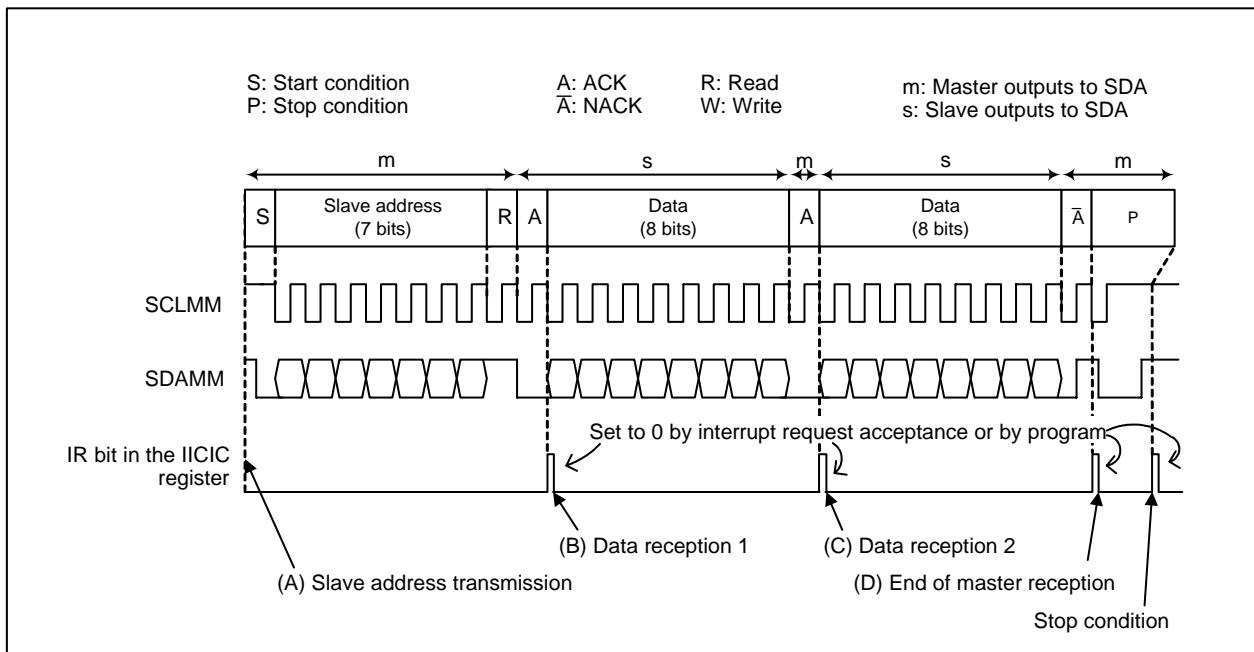

Figure 21.18 Example of Master Reception
The master reception is described in this section. The initial settings described in 21.3.10.1 “Initial Settings” are assumed to be completed. Figure 21.18 shows the operation example of master reception. The following programs (A) to (D) are executed at the (A) to (D) in Figure 21.18, respectively.